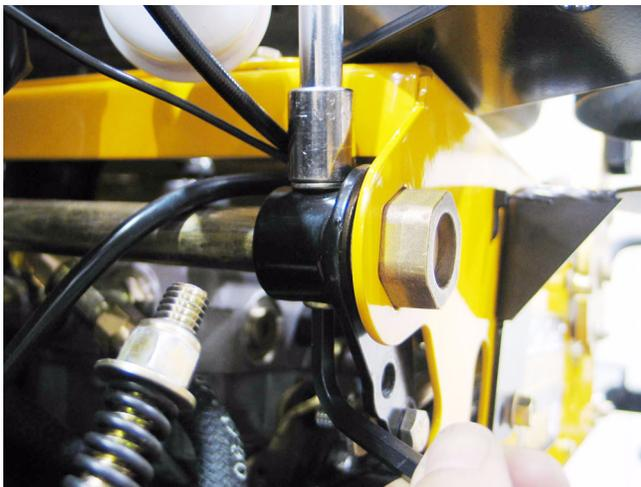

Figure 22.9
- 22.9. Remove the cap screws that connect the input and output arms to the brake pivot shaft using a 1/2" wrench and a 1/4" allen wrench. See Figure 22.9.